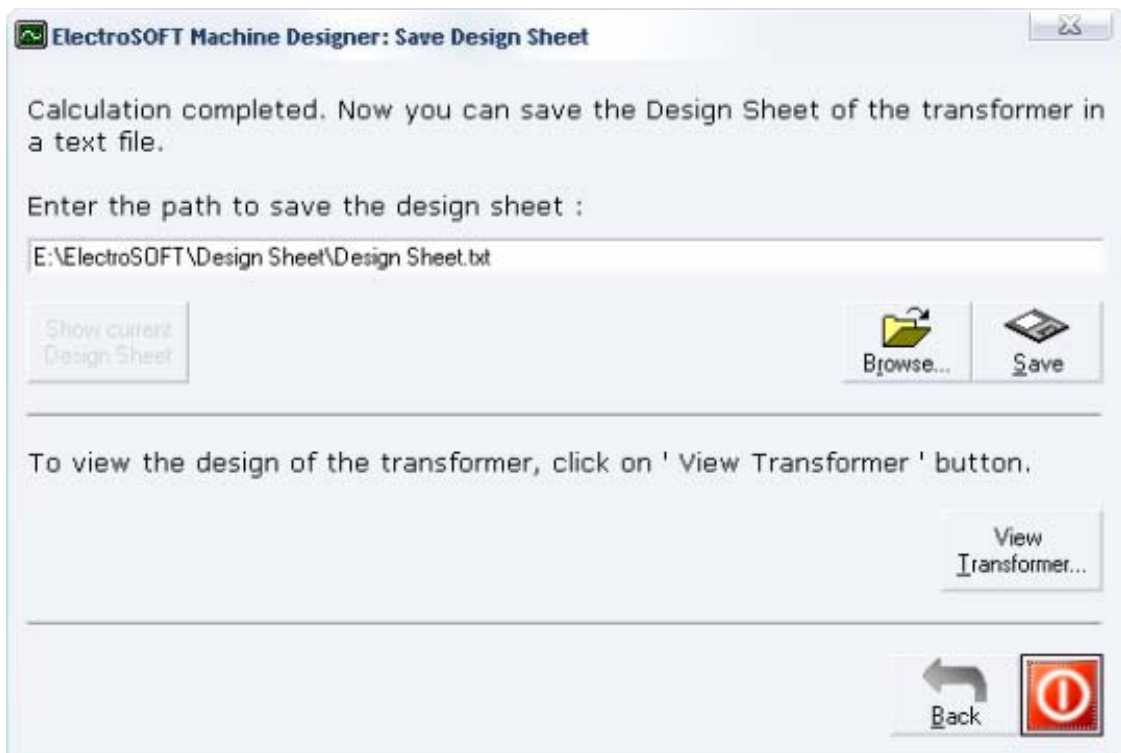

Fig 2: Picture of the form giving options of saving Design Sheet and viewing the electrical machine
4. After the calculation, the design sheet is ready to save. So in the next form (window), an option of saving the design sheet will be given (shown in fig. 2). Here is a sample design sheet which conveys all the details about the machine. This design sheet is made according to the dataset entered in the form shown in fig. 1.
us to get the best view of the picture of the drawing. For example: we can get the upper view, bottom view, front view, and side views also. If these views are not sufficient to visualize the machine, we can use another feature of this software which helps us to get the view from any angle. There is another exciting feature by which we can get the rotating view of the machine to have a complete idea about the machine. All these features are available in the form shown in fig 3 (within “AutoCAD tools” frame). We can get this form after clicking on the “View Transformer” button in the form shown in fig 2. To give an idea to the beginner about how it is made in factory, we can use the “Step-by-Step View” feature of this software which is also available in the same window in the frame named “Step-by-Step View”. Here is a snapshot of a transformer after clicking on the “Draw” button in the form shown in fig 3: